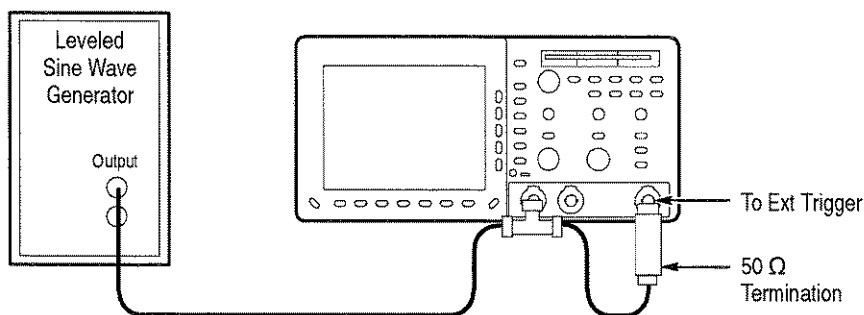

Figure B-6: Hookup for trigger sensitivity check
7. Connect the BNC T connector to **CH 1**; connect the cable to the **EXT TRIG** input through a 50 Ω termination as shown in Figure B-6.